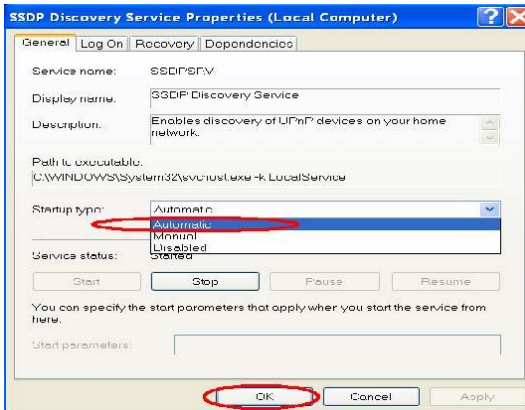

Figure A-18
**Step 5:** Choose **Automatic** in the **Startup type**, and click **OK** to start it. See Figure A-18.